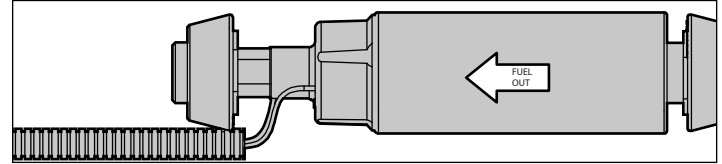

Figure 7 - Primer Pump
1. Install the new primer pump with fuel flow arrow aimed towards fuel outlet. (See Figure 7)